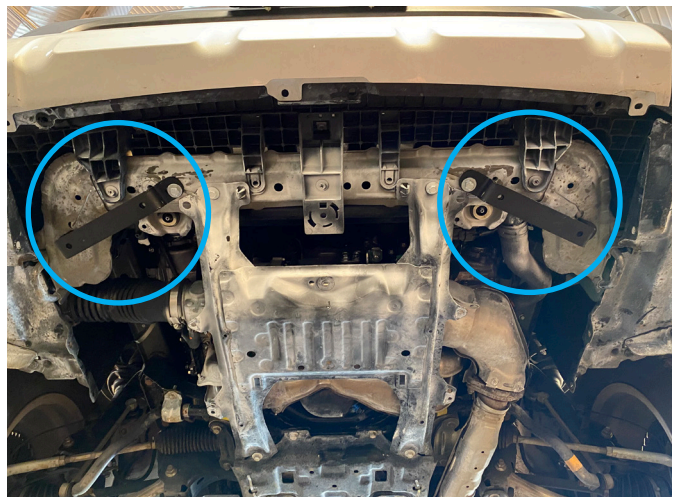

Fig.8
7. Install right bracket (Item. 4) to previously installed insert nuts (Items. D,E) using M8x25 bolts and M8 washers (Items. A,B) as shown in Fig. 8.